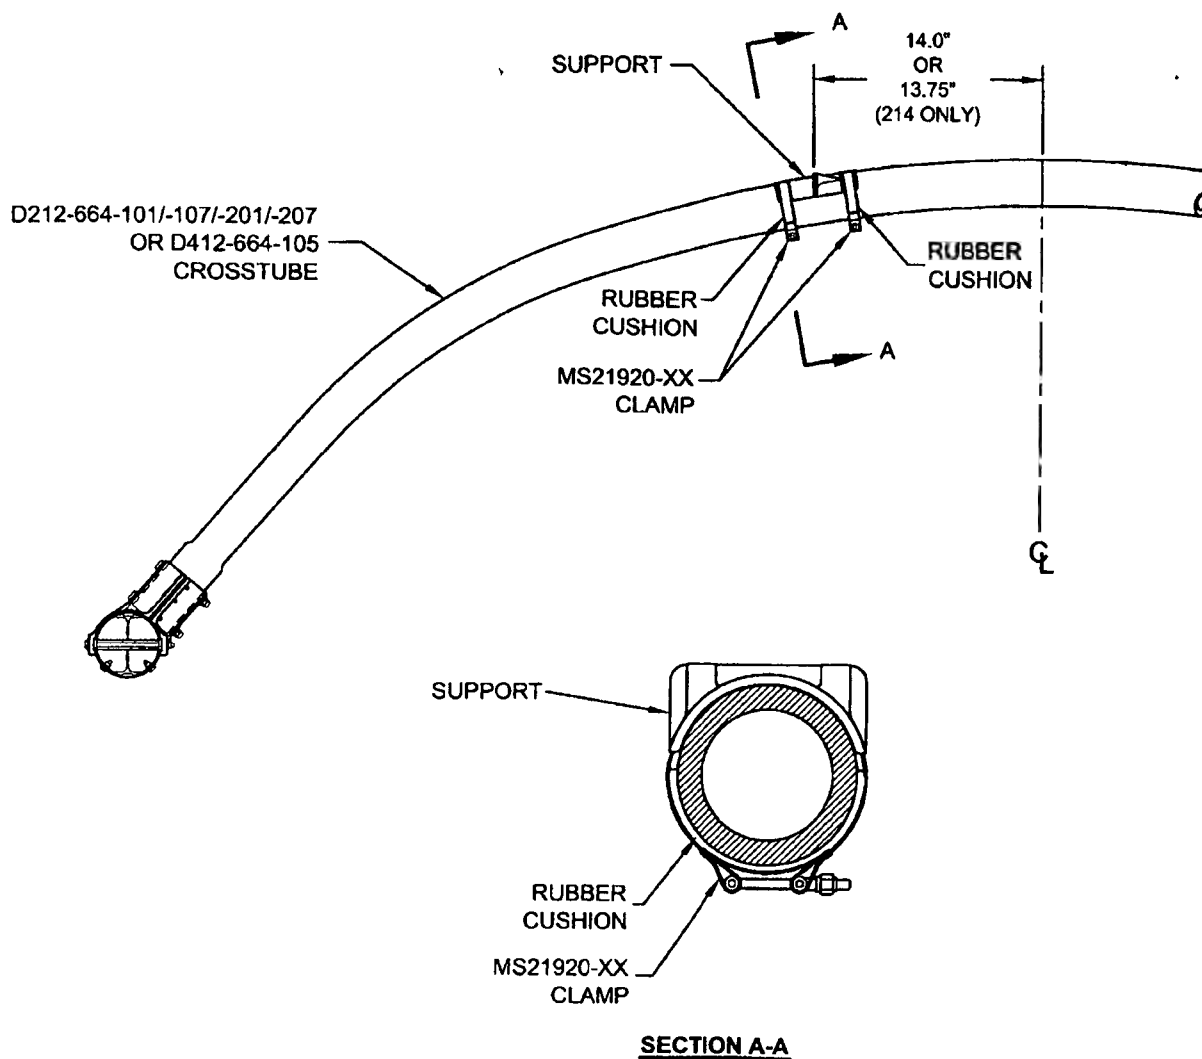

FIGURE 1: SUPPORT INSTALLATION
For the crosstubes listed above, section 32.4 of ICA-D212-664 is amended as follows. Use Figure 1 of this service instruction and Figures 32-2 to 32-9 of ICA-D212-664 for further reference. For crosstubes of an earlier change number, it is recommended that if the supports are removed, the supports should be reinstalled using the procedure listed below.
- 32.4.1 Locate the area on the crosstube for installation of support (see Figure 1 of this service instruction). For D212-664-101/-107/-201/-207 and D412-664-105 crosstubes, the outward face of the support tabs should be 14.0" (355mm) from the crosstube center for 204/205/210/412/UH-1 aircraft. For installation on 214B/B-1 aircraft, the outward face of the support tabs should be 13.75" (349mm). Ensure paint finish of crosstube is intact; touch up as required per Chapter 5 (5.3.9) of ICA-D212-664.
- 32.4.5 Apply a 0.04" to 0.07" thick layer of Proseal 890 Class B or AMS-S-8802 Class B sealant underneath applicable support and install support as shown in Figure 1 of this service instruction.
- 32.4.6 Install the clamps opposite to crosstube support as shown in section A-A of Figure 1. Install rubber cushions underneath each clamp around the bottom circumference of the crosstube up to the crosstube centerline. Torque clamps 80-100 in·lb (9.0-11.3 Nm). It is acceptable to use smaller or larger sized MS21920-XX clamps than those listed in ICA-D212-664, ensure that after torquing the clamps per this instruction, the nuts are in safety but not bottomed out